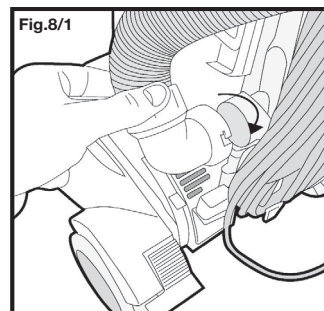

Fig.8/1
2. The flexible hose can be disconnected from the vacuum cleaner by turning anti-clockwise and pulling away from the machine (Fig.8/1). Remove any blockages found then reconnect the hose securely.